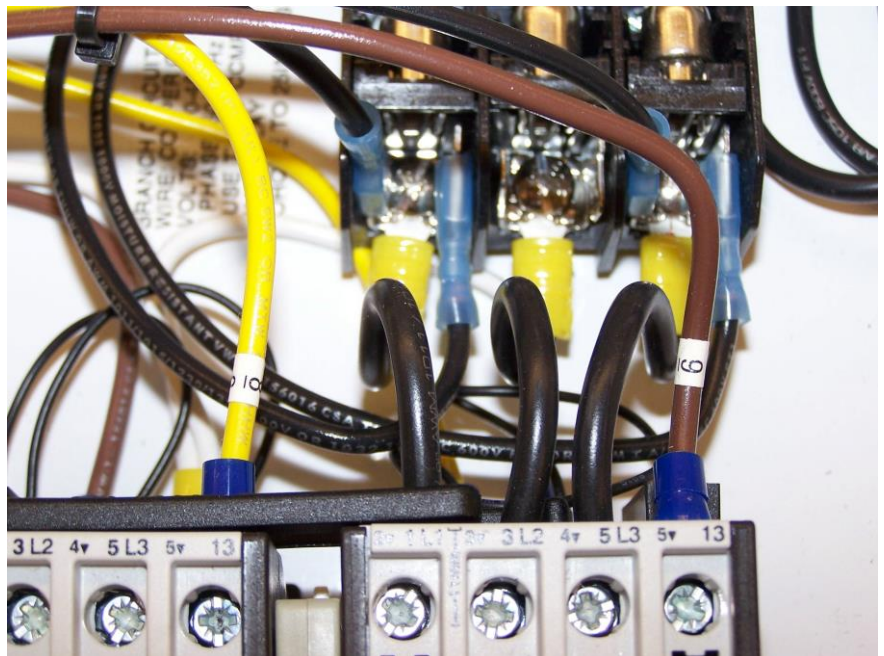

Figure 12
9. The Brown wire labeled #9 connects to "FORWARD" contactor terminal "NO" upper position (Figure 12).